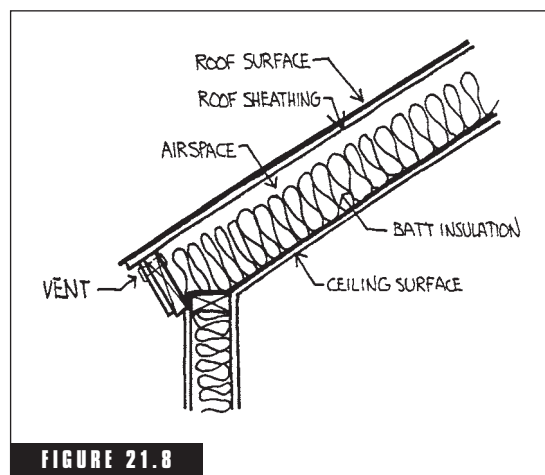

FIGURE 21.8
2. If you have cathedral ceilings, the proper way to insulate is to install batt material between the roof rafters against the underside of the roof sheathing or deck before the installation of dry wall or plasterboard (Figs. 21.8 and 21.9). There should be an airspace of at least 3 inches between the top of the insulation and the underside of the roof sheathing or deck. This space is needed to ensure proper ventilation and to provide enough space for attic rafter and other vents to function properly.